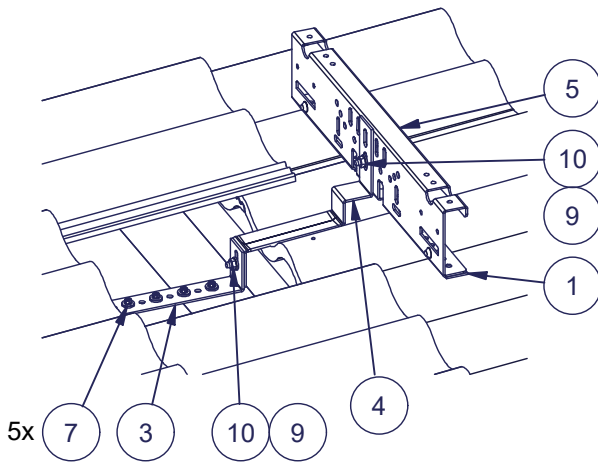
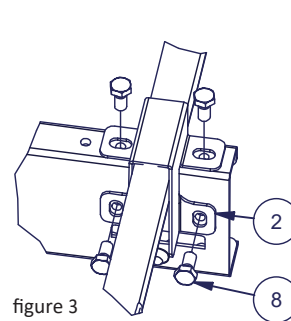
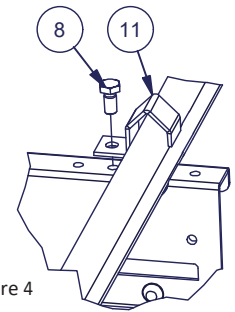
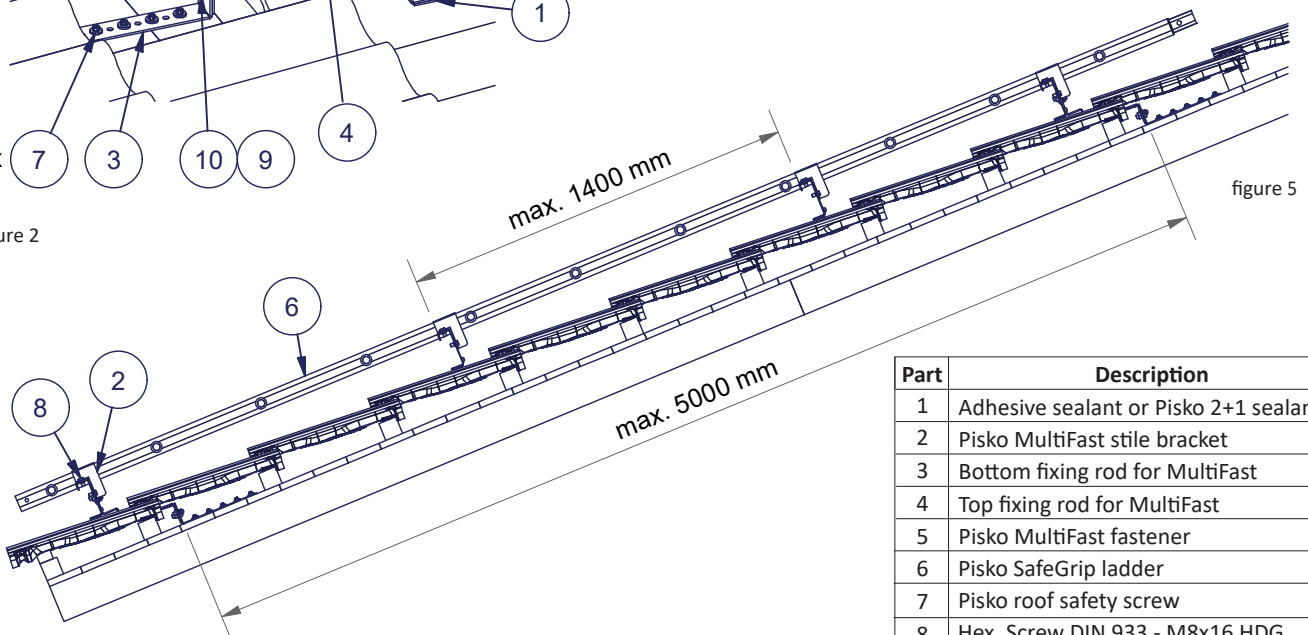

figure 2
figure 3
figure 4
figure 5
Roof ladders are mounted to the under boarding (min. 17 mm) by using the fixing rods (3 and 4). Fix these parts loosely together by using M8 square neck bolt and M8 flange nuts. Start with a loose fixing of the products. The bottom fixing rod (3) shall be fixed with at least 5 Pisko roof safety screws (7) to the under boarding (figure 2). The maximum distance between the rods is 5000 mm (figure 5).
Place an adhesive sealant (1) or alternatively Pisko 2+1 sealants (3 pcs per bracket) to the bottom of the Pisko MultiFast fastener (5) and attach them to the ladder frame with Pisko MultiFast stile brackets (2) by using 4 pcs of M8x16 screws per bracket (figure 3). Start with a loose fixing of the screws. The maximum support c/c is 1400 mm (figure 5). The top and bottom MultiFast fasteners of the ladder should be fixed with stile brackets (2). Fasteners in between can be fixed to the ladder with Pisko MultiFast stile bracket, easyfix (11)(figure 4). Place the ladder on the roof and fix the Pisko MultiFast fasteners (5) to the top fixing rods (4) coming from the roof by using M8 square neck bolt and M8 flange nut 8 (figure 2). Lastly, tighten all the connections firmly.